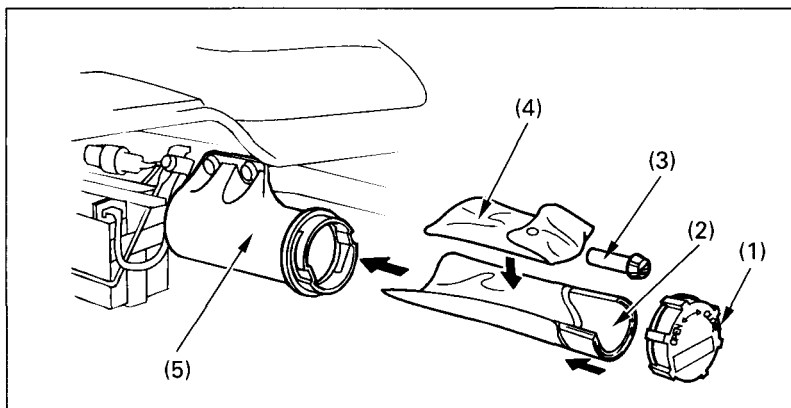

Fig. 2-21 (1) Compartment cover (4) Tool kit
The storage compartment (Fig. 2-21) is below the rear fender. Remove the compartment cover (1) to gain access to the compartment. The Owner's Manual (2), air pressure gauge (3) and tool kit (4) should be stored in the storage compartment.